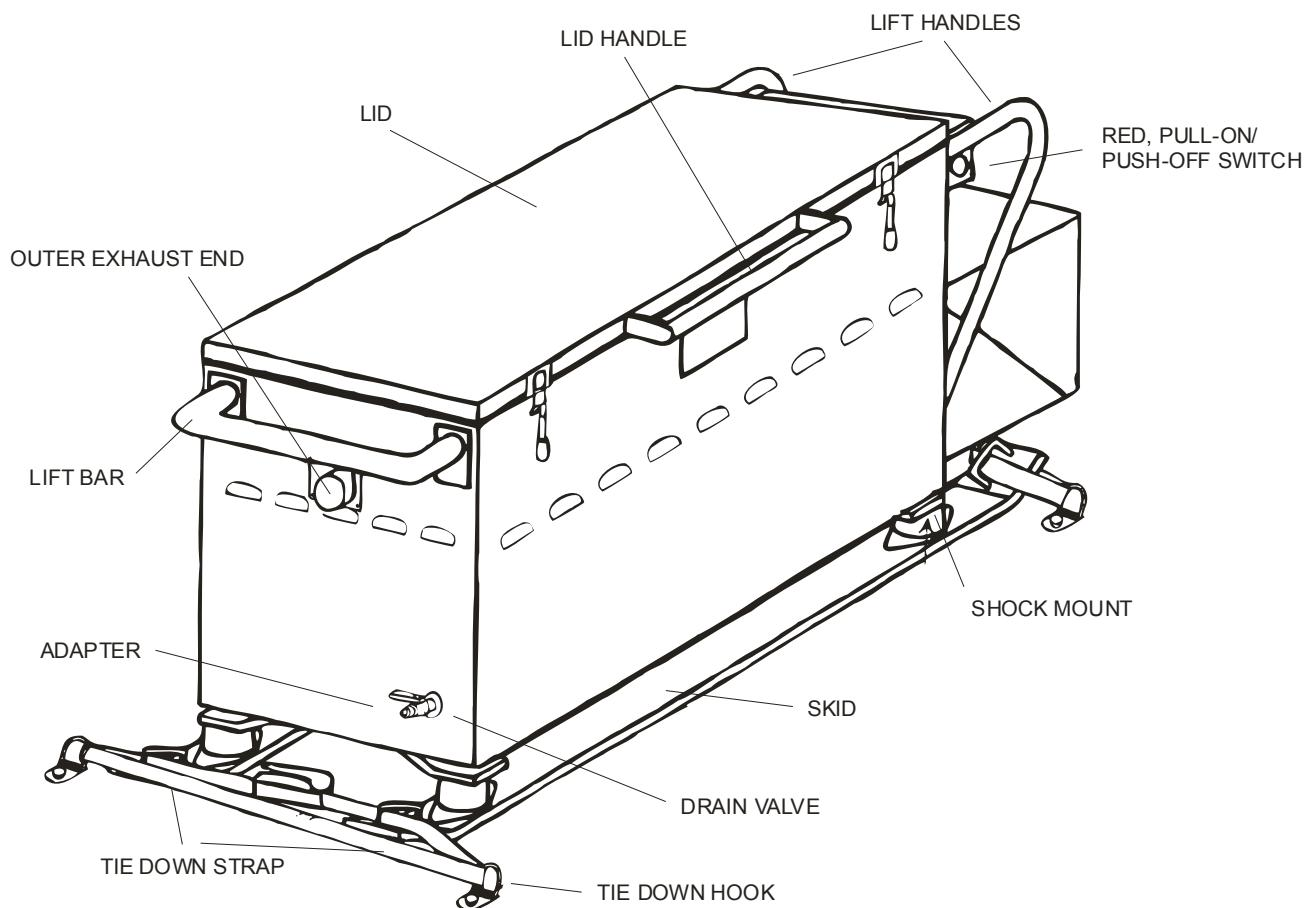

Figure 1-3. Tray Ration Heater
a. **TRH Tank.** Figures 1-3, 1-4, 1-5, and table 1-2, contain identification of TRH parts and other TRH components.